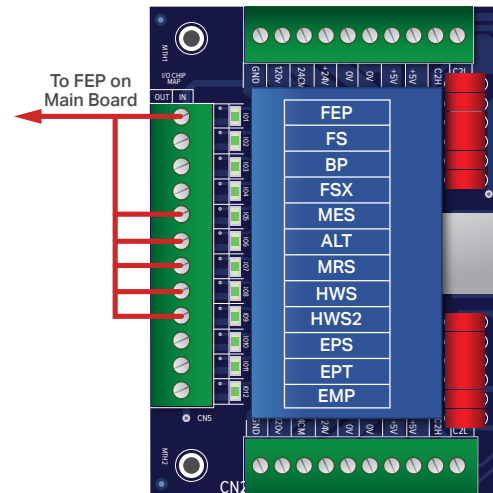

Figure 1: Typical I/O Expansion Board
- 2 Add temporary connections on the GALX-1102 Main I/O Board and Expansion I/O boards as shown in **Figures 1, 2, 3, and 4**.